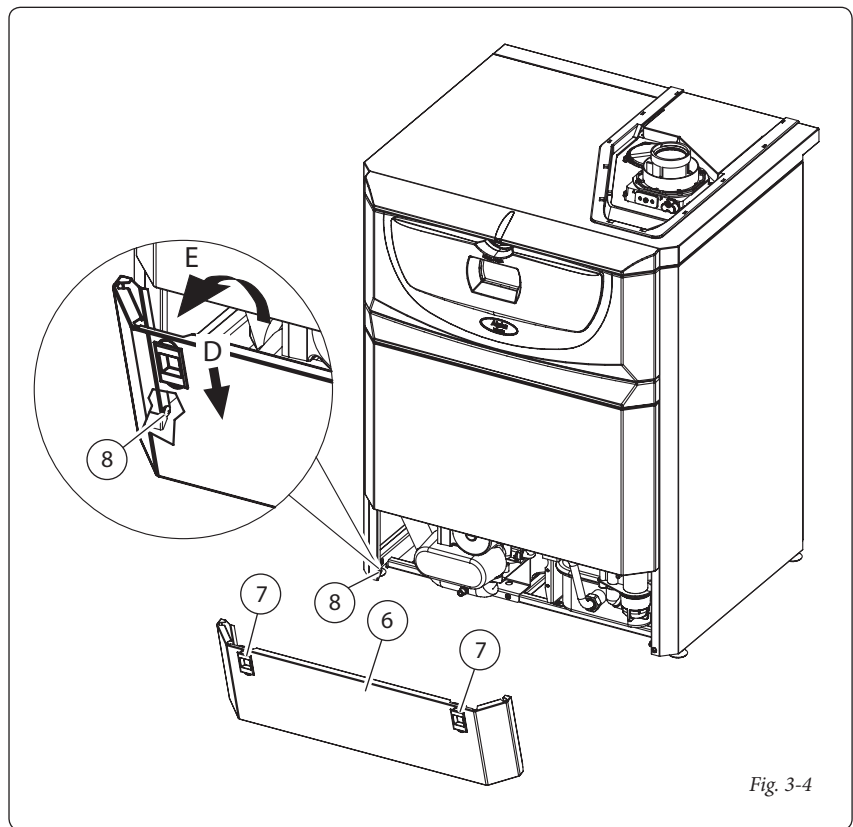
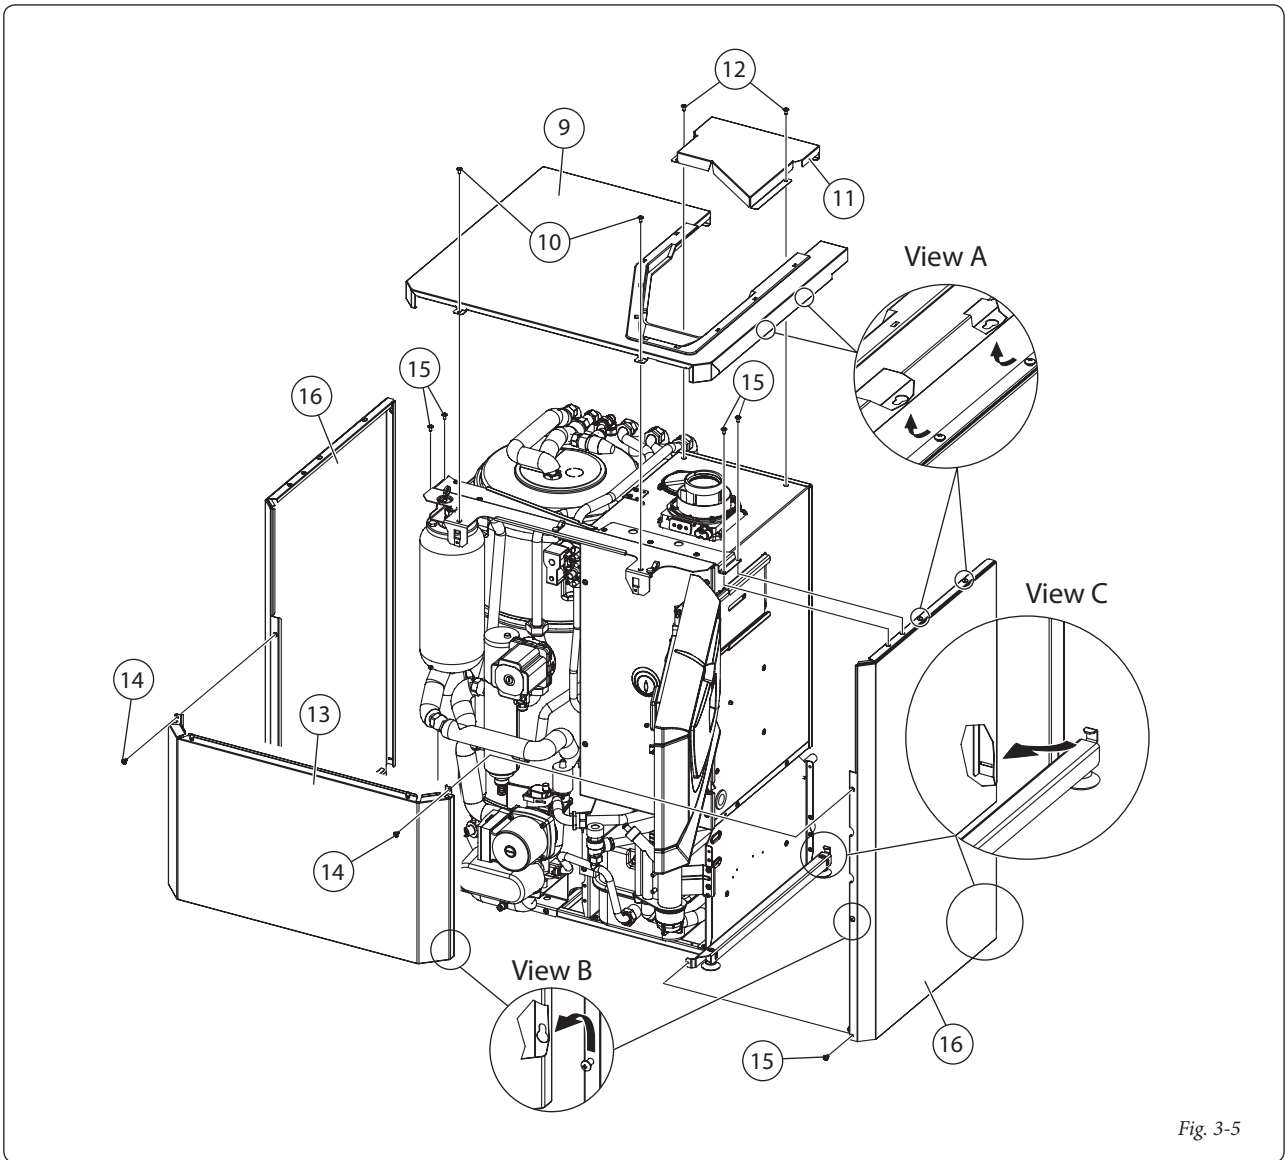

Fig. 3-4
Fig. 3-5
- Remove the lower panel (item 6, Fig. 3-4).
- Step D. Press down on the two catches (7)
- Step E. Hinge the cover forwards on the two screws (8) and lift it off the screws.
- Remove the remaining case panels (Fig. 3-5).
- Top cover (item 9, Fig. 3-5). Remove the two screws (10), pull the cover forwards slightly to disengage the fixings (see view A) and lift it off.
- Rear top cover (item 11, Fig. 3-5). Remove the two screws (12) and lift off the cover.
- Front panel (item 13, Fig. 3-5). Remove the two screws (14), lift up the cover slightly to disengage the fixings (see view B) then pull it forwards off the side panels.
- Side panels (item 16, Fig. 3-5). Remove the upper and lower screws (15) then slide the panel forwards to disengage it from the rear fixings (see view C).